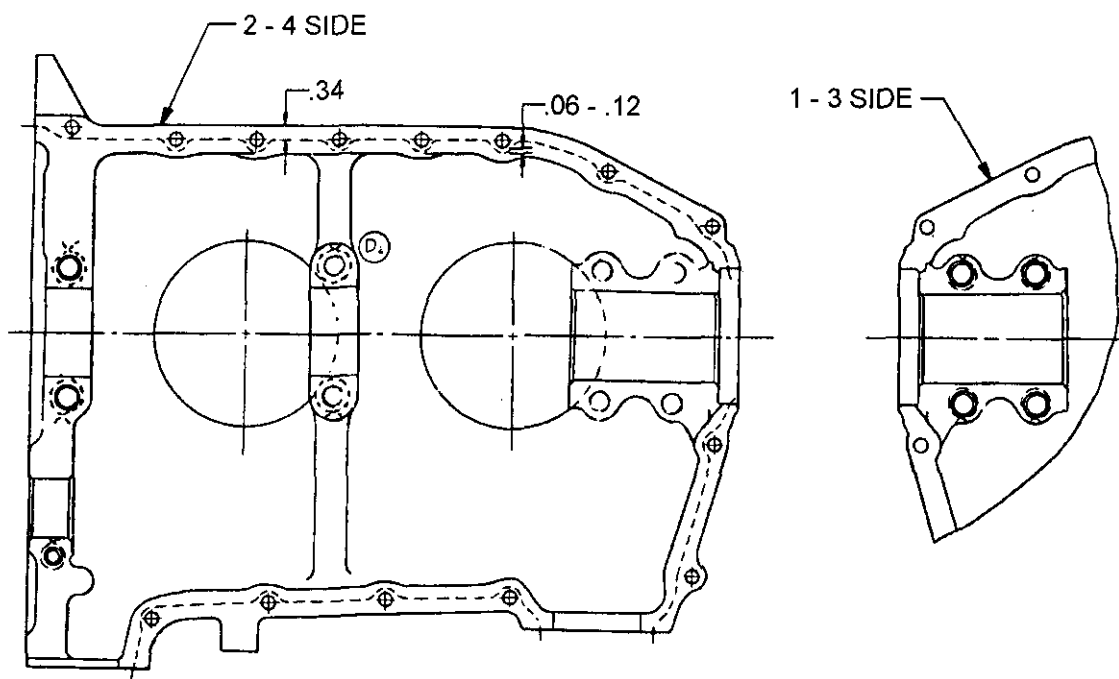

FIGURE 1. C75, C85, C90, 0200 CRANKCASE THREADING DIAGRAM
4. Apply and position grade D silk thread P/N 641543 on case halves as specified in Figure 1. Be sure free ends of thread are covered by gaskets except at the nose oil seal.